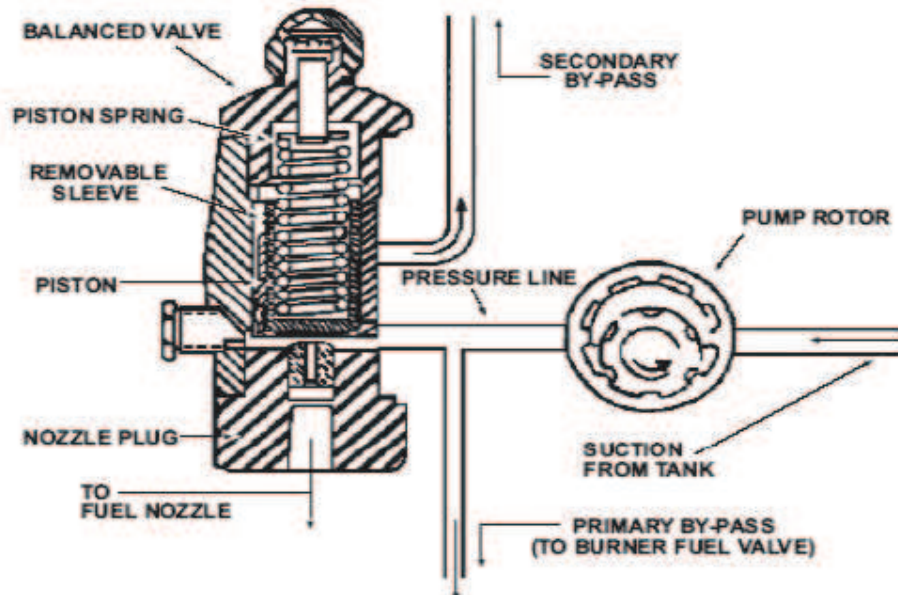

Figure 4-5 Schematic Diagram of Fuel Pump
- 4.20** The discharge air temperature gauge (see figure 4-4) is located in the control box. The temperature gauge is a dial type instrument which indicates the actual temperature of the discharge air in degrees Fahrenheit. The temperature gauge sensing element is mounted in the discharge air stream. (See figure 4-5)
- 4.22** A high temperature switch is installed in the outlet air stream to limit the maximum temperature that can be reached. (Maximum temperature is 250°F) (Figure4-5)
4.30 The fuel pump is mounted on a bracket to the left of the engine. The pump is belt driven by the gas engine. There are three outlet ports and two inlet ports (**see figure 4-5**). The primary by-pass will handle all the flow if the balanced valve is closed. The burner valve, which is in the primary by-pass line, is closed to obtain fuel flow to the nozzle. Closing the burner valve allows the pump to build up pressure to the point where the balancing valve opens allowing fuel flow in the nozzle fuel line. The pressure at which the balanced valve opens is determined by the compression of the piston spring, normally the spring is adjusted to 150 psi. The secondary by-pass supplies fuel to the engine and returns surplus back to the fuel tank. When the burner valve is open the pump cannot build up sufficient pressure to open the balanced valve and effect flow through the nozzle fuel line. Since the pump delivers fuel in excess of the maximum nozzle capacity maximum nozzle capacity there will always be flow through the secondary by-pass line when the burner valve is on.